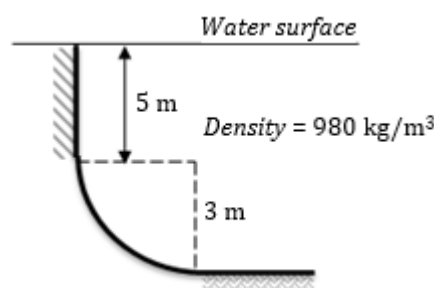

Figure 12
12. A curve gate AB is submerged in a liquid as shown in figure 12. Determine the resultant force due to water per meter length, acting on the 3 m radius curve gate AB as shown in figure below. (Ans: 283124.494 N)